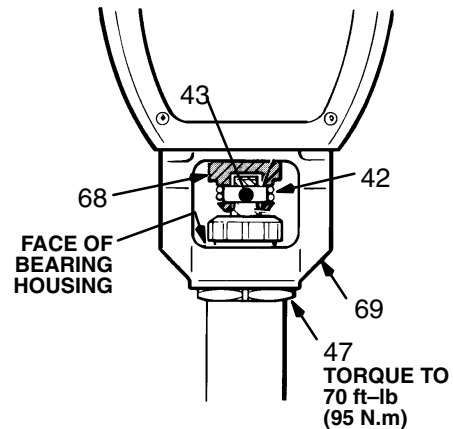

Fig 38-2
15. Screw the displacement pump about 3/4 of the way into the bearing housing (69). Hold the pin (43) up to the pin hole in the connecting rod assembly (68) and continue screwing in the pump until the pin slides easily into the hole. Back off the pump until the top threads of the pump cylinder are flush with the face of the bearing housing and the outlet nipple (40) is straight back. Push the retaining spring (42) into the groove all the way around the connecting rod. Tighten the locknut (47) very tight—about 70 ft-lb (97 N.m)—with a 2 in. open-end wrench and a light hammer. *Refer to Fig 38-2.*
Be sure the retaining spring (42) is firmly in the groove of the connecting rod, all the way around, to prevent it from working loose due to vibration. Refer to Fig 38-2.